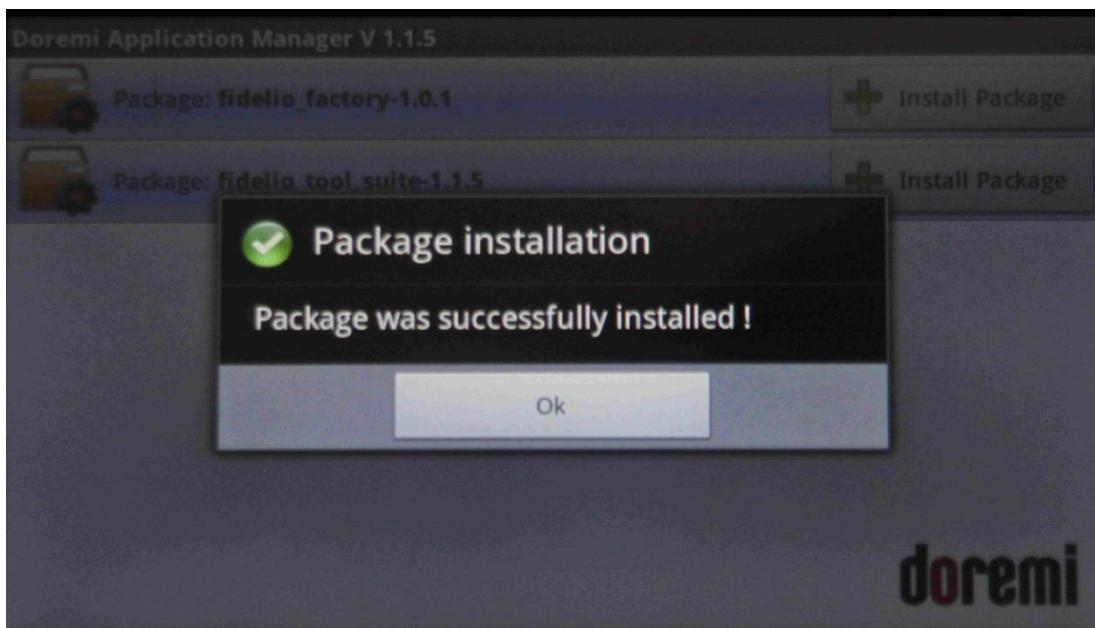

Figure 74: Package Installed Successfully
- The app will tell you that the package was successfully installed (Figure 74). Tap Ok.